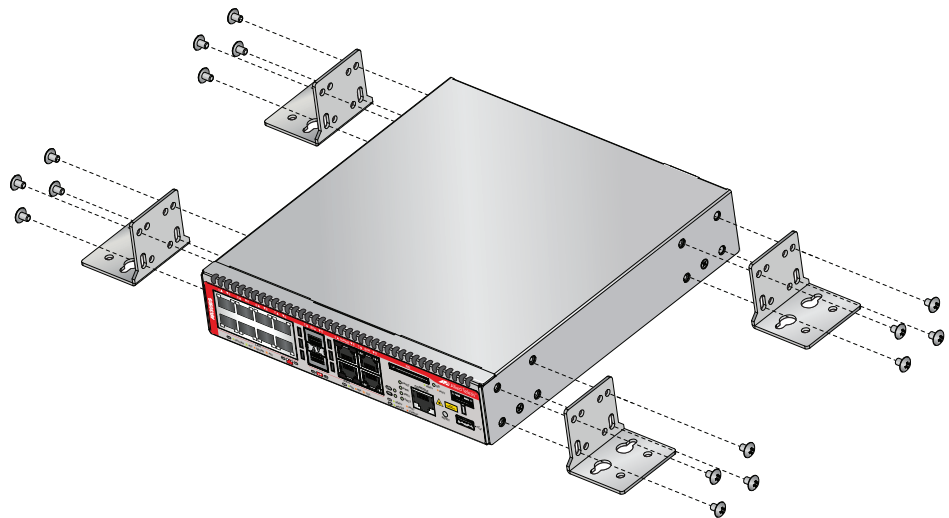

Figure 10. Attaching the wall mount brackets to the side of the router
3. Orient the brackets against the sides of the router, and secure them to the unit with the 16 brackets screws included in the wall mount kit. See Figure 10.